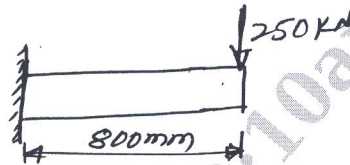

Fig.Q5(b)
- b. A cantilever beam subjected to a point load of 250 kN as shown in Fig.Q5(b). Determine the deflection at the free end and the support reactions. Take $E = 200$ GPa, $I = 4 \times 10^6$ mm⁴. (08 Marks)